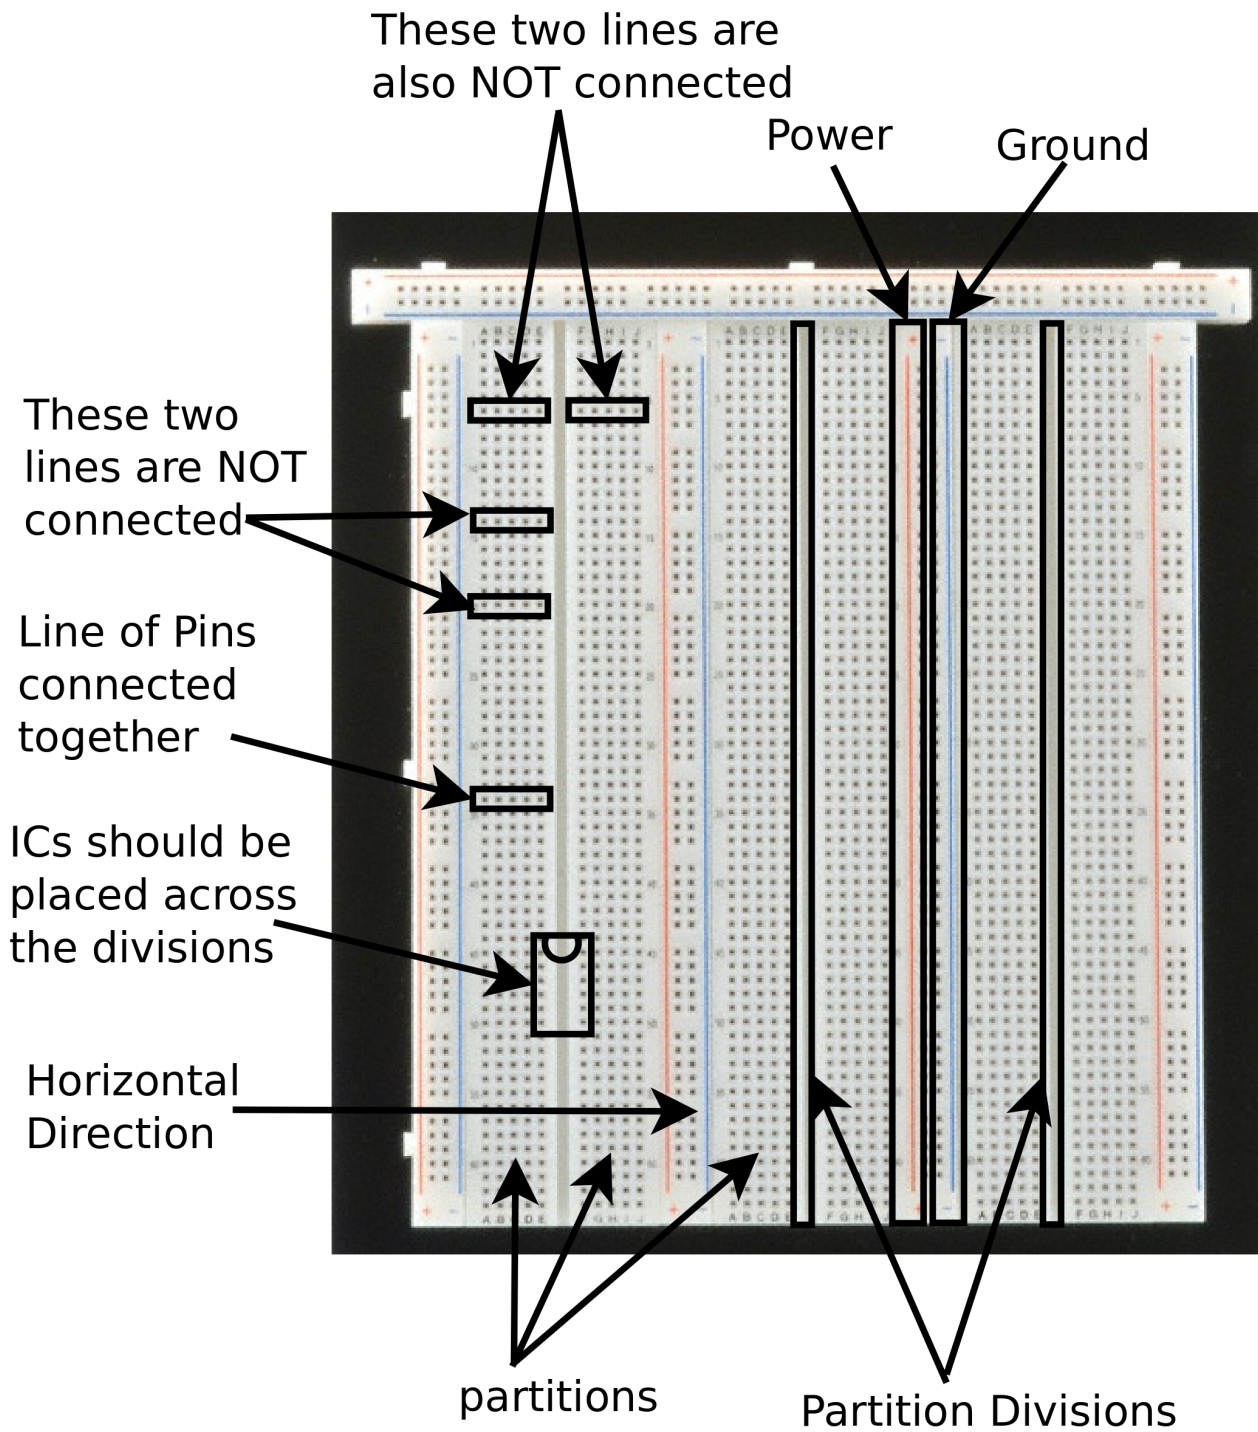

Figure 1: Bread-Board
The bread-board used in ECEN 248 and ECEN 449/749 is depicted in Figure 1. Take a moment to examine it. Here are a few techniques which will help you wire up your circuits:
2. Vertical lines of points are **NOT** electrically connected, except in the case of a power or ground line (see Figure 1).
3. Power and Ground lines shown vertically in Figure 1 are electrically connected. In lab, you will connect the 5V supply to one of the pins in the Power line. This will connect the entire column to the 5V supply. Similarly, the Ground signal needs to be connected to one pin in the Ground line.
4. All the Integrated Circuits (ICs) in the design should be placed across one of the partition divisions as shown in Figure 1. Do not place an IC in only one partition because this will short pins together causing the IC to burn up.
7. You may decide to always place the IC in such a way that the notch is located on the top (or bottom) as shown in Figure 1. This may help you identify pin numbers. Similarly, it might be a good idea to use color codes while wiring up your design. For example, you could assign black wires to the least significant bit, white wires to the next significant bit, green wires to the next, and red wires for the most significant bit. The color code and order of assignment is entirely your choice and for your convenience in identifying wire connections while debugging.